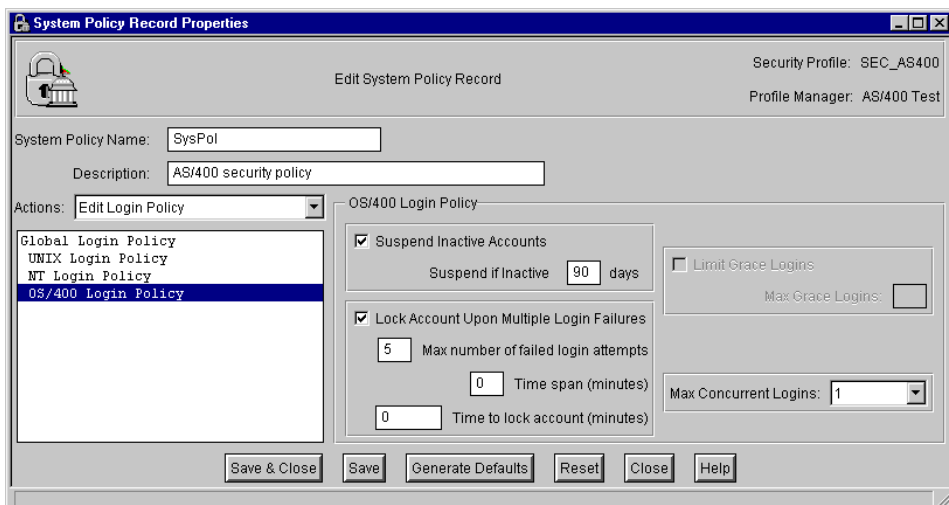

Figure 316. Editing the OS/400 login policy
- On the System Policy Record Properties screen, select **Edit Login Policy** from the Actions list. A list of policy types will be displayed. Select **OS/400 Login Policy** from the list as shown in Figure 316.